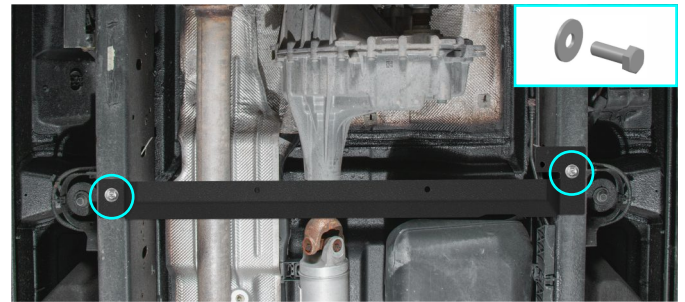

Fig. 2
2. Install crossmember (item 2) as shown in fig.2 and secure it using bolts M10x30 with flat washers M10 (items C, D).